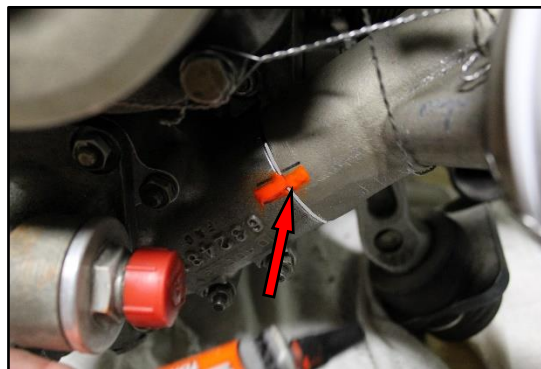

Figure 3
- b. If neither the sleeve or spool moved when tested in accordance with Paragraph 3 (a), apply a bead of Torque Seal (Cross Check ITW PRO Brand or equivalent) across the copper gasket at the sleeve/oil pump housing joining as shown below in Figure 3.